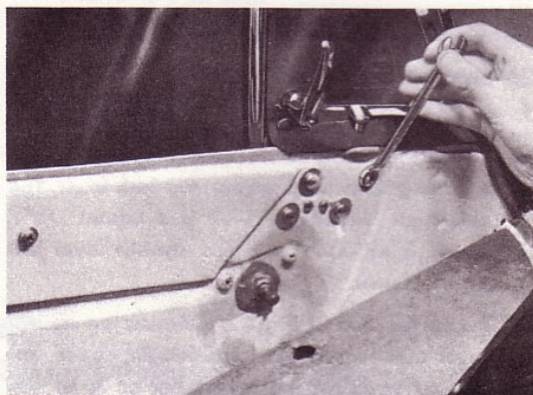

Fig. 22. Removing ventilation window without frame.
2. Remove the plastic material which covers the door and screw out the adjusting pin (Fig. 22) for the ventilation window. When doing this, insert the hand through the large hole in the door and remove the cap on the back of the lower hinge for the ventilation window.